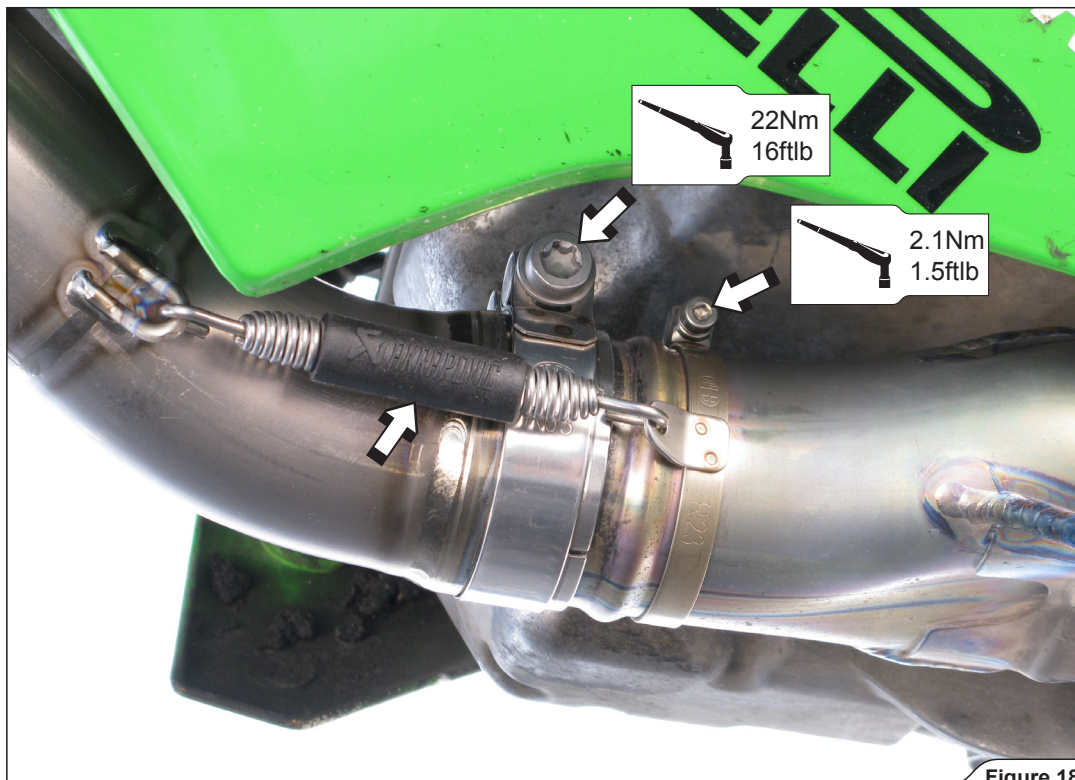

Figure 18
- Attach the spring, align the spring hook clamp and link-pipe clamp as shown. Tighten them to the specified torques (Figure 18).